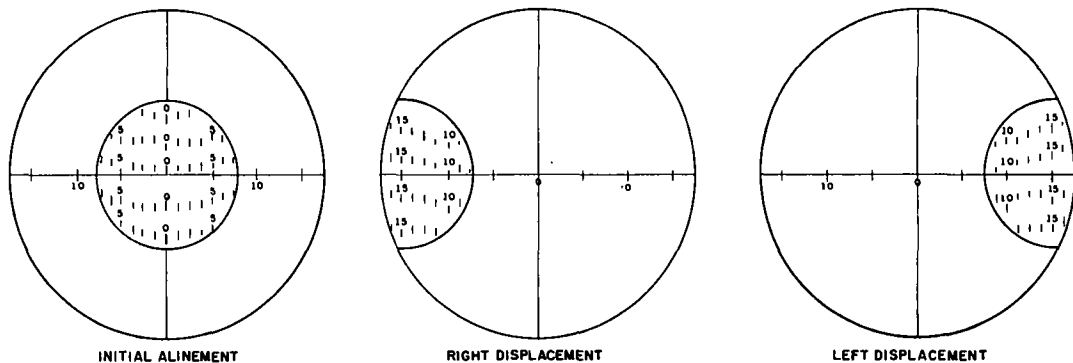

Figure 8.1. Gunner's sight picture of the collimator when correcting for displacement.
Page 26. Paragraph 26d and figure 8.1 are added after paragraph 26c(6).
- (1) The collimator may be emplaced in any convenient position, from 4 to 15 meters from the left side of the weapon. Best results are obtained between 5 to 11 meters.
- (2) While the howitzer is being laid, number 4 alines the optical system of the collimator on the center of the telescope rotating head and cross-levels the reticle pattern.
- (3) After the howitzer is laid the gunner directs number 4 in alining the 0 line of the collimator reticle with the vertical reticle of the panoramic telescope.
- (4) To lay for direction during firing, the gunner sets the announced deflection on the panoramic telescope and alines any number on the panoramic telescope reticle with the same number of the collimator reticle with the vertical line of the reticle of the panoramic sight on the low side of the displayed collimator pattern. This procedure for laying compensates for weapon displacement (fig. 8.1).